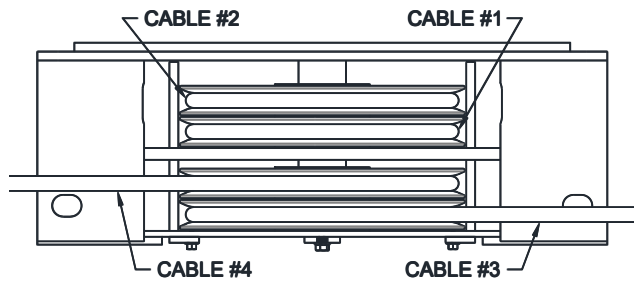

Fig 3 – Power Runway 4-Stack (rear view)
- Unpack lift. Remove all packaging from Power Runway (power runway has four cable sheaves at rear end and two at front). Make sure the cables are in the proper sheaves at both ends of the runway, **Figs 3 & 4**.